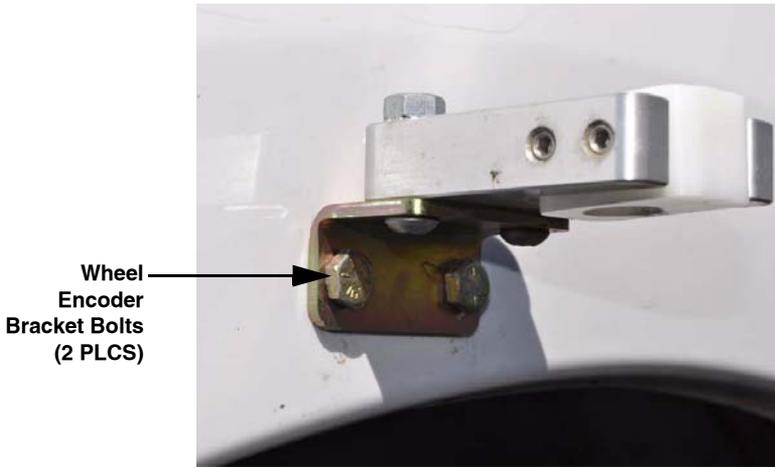

Figure 2-2. Wheel Encoder Pole Holder Installed
1. Using the supplied wheel encoder bracket as a template, drill two holes on the top of the rear left tire's fender (Figure 2-2).
2. Install the wheel encoder bracket onto the vehicle using the two (2) bolts as shown in Figure 2-2. Secure the bracket from the inside of the fender using the two (2) nuts and washers.